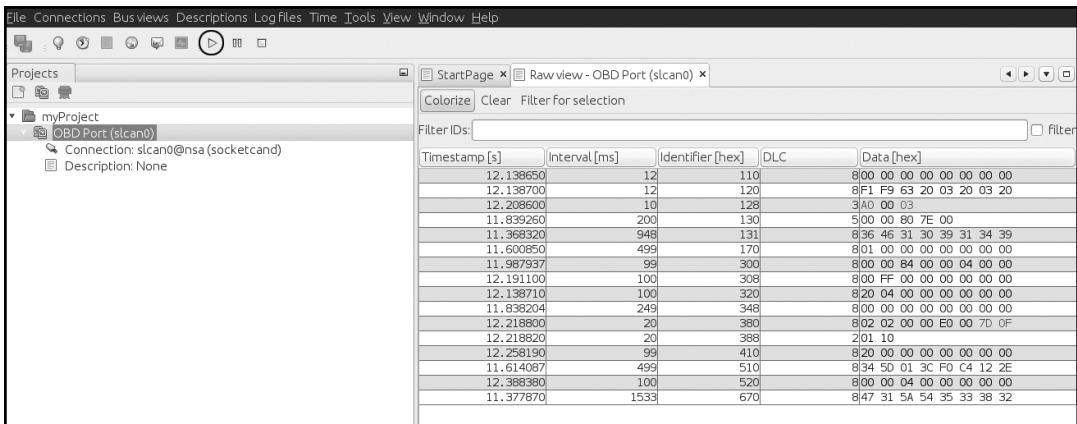

Figure 3-6: Open RAW view and press the play button to see packets from the CAN bus.
6. Press the play button (circled in Figure 3-6); you should start to see packets from the CAN bus.